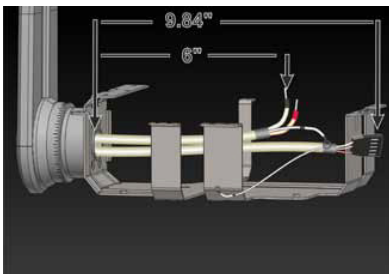

Figure 98
- Insert the cables (scissor arm cables along with scissor arm earthing wire) from the hole of the rotating bush such that it comes out of the L-Clamp as shown in the Figure 98 . Ensure that the other end of the Scissor arm earthing wire is already connected firmly to the L Arm (near the rotating bush).
- Pull the scissor arm cables such that the length of the communication cable measures 9.84"(approx) from the connector to the surface of the L-Clamp and length of the Inverter power cable measures 6"(approx) from the connector to the surface of the L-Clamp as shown in the Figure 98 using measuring tape.